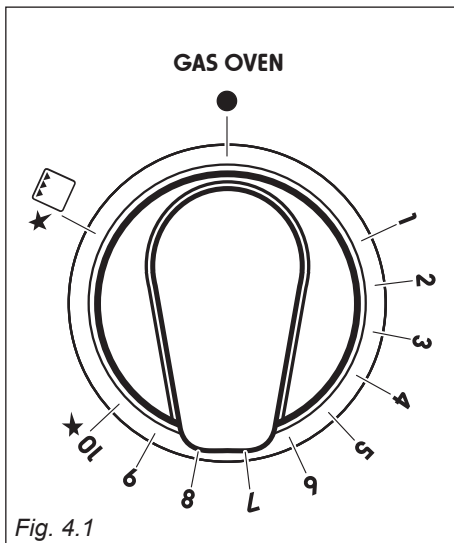
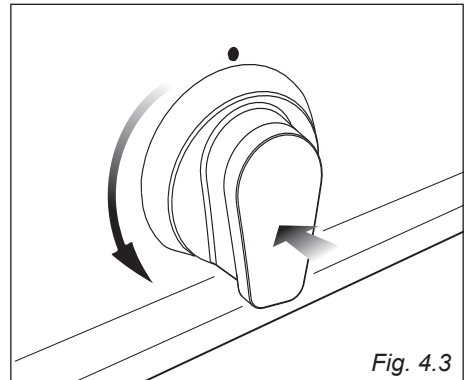

Fig. 4.1
Fig. 4.3
The numbers **1** to **10** printed on the knob (fig. 4.1) indicate the increasing oven temperature value (see table 4.2).
2. Lightly press and turn the thermostat knob anti-clockwise (fig. 4.3) to max position **10** ★ (fig. 4.1).
2. Lightly press and turn the thermostat knob clockwise to the position  (fig. 4.1).